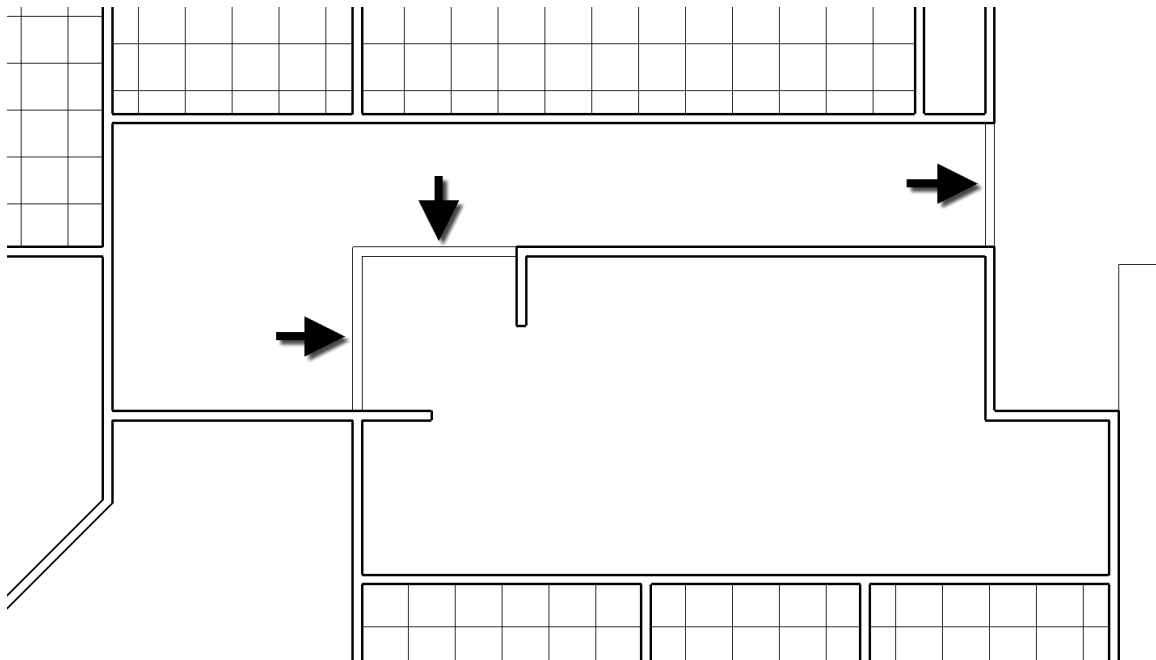

FIGURE 7-4.12 Bulkhead modeled
28. In the *Properties Palette*, set and the *Base Offset* to **7'-10"**. This will put the bottom of the wall to 7'-10" above the current floor level, *Level 1* in this case (Figure 7-4.12).
30. **Draw the bulkhead**; make sure you snap to the adjacent walls (Figure 7-4.12).